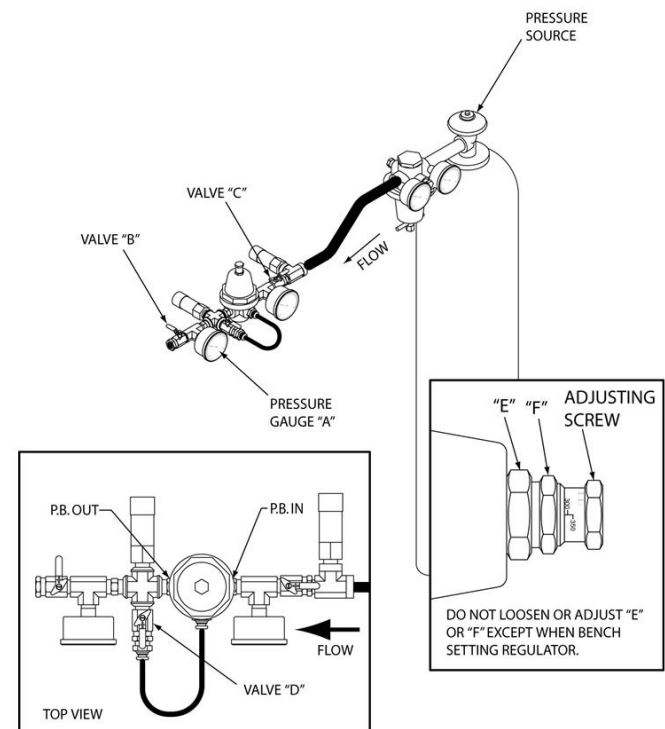

Figure 20
2. If the desired pressure setting is not within the regulator's range the regulator will have to be replaced as shown in Figure 20.
1. Connect the pressure control regulator to a nitrogen pressure source as shown in Figure 20.